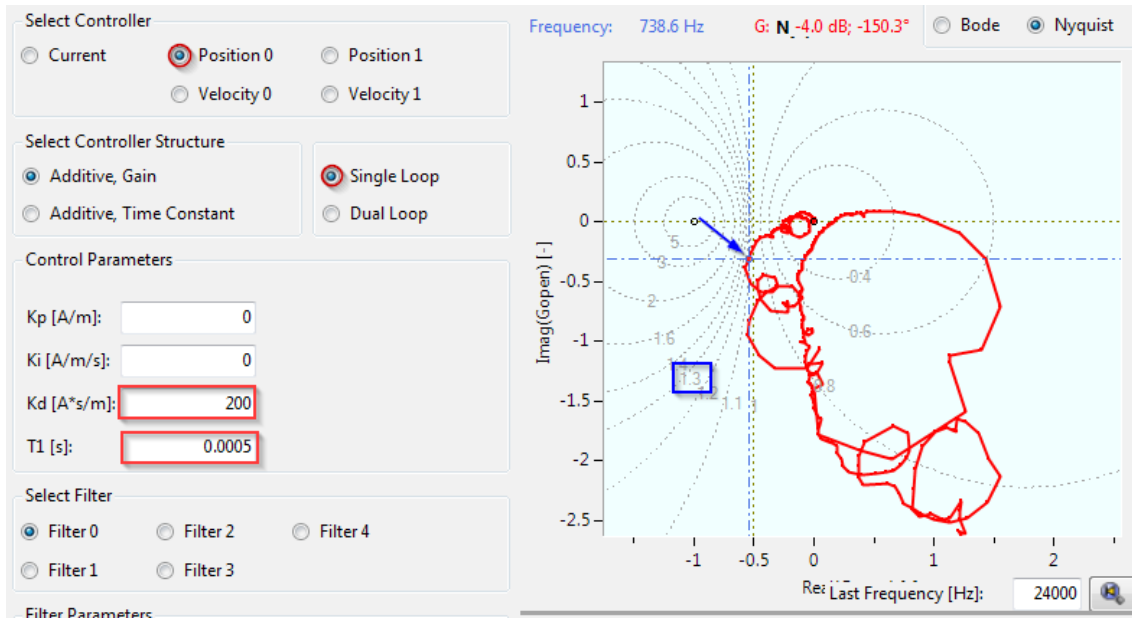

Figure 7: Tuning of inner controller loop.
- Activate **Position 0** in the **Select Controller** panel and **Single Loop** in the **Select Controller Structure** panel (Figure 7).
- In the Nyquist view the differential gain **Kd** can now be adjusted so that the open loop transfer function touches but does not exceeds the circle labeled with 1.3 (Figure 7).